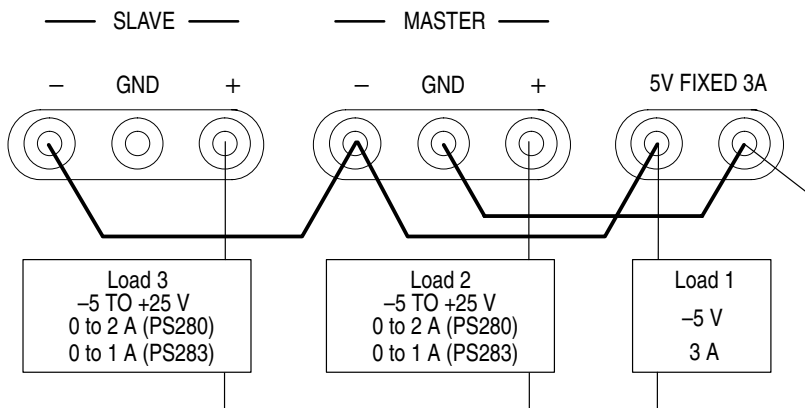

Figure 5: Independent Common Ground-Referenced Application
Figure 5 shows an example of a circuit with the FIXED 5 V terminal referenced to ground and both the master and slave variable power supplies referenced to -5 V.
2. Connect the outputs as shown in Figure 5.